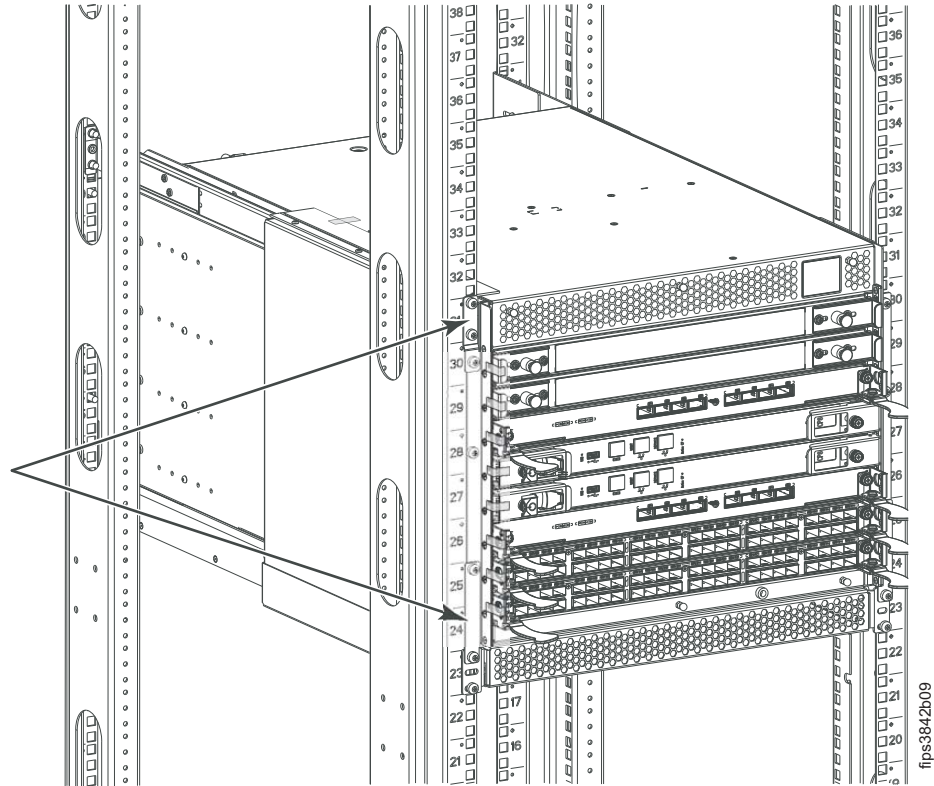
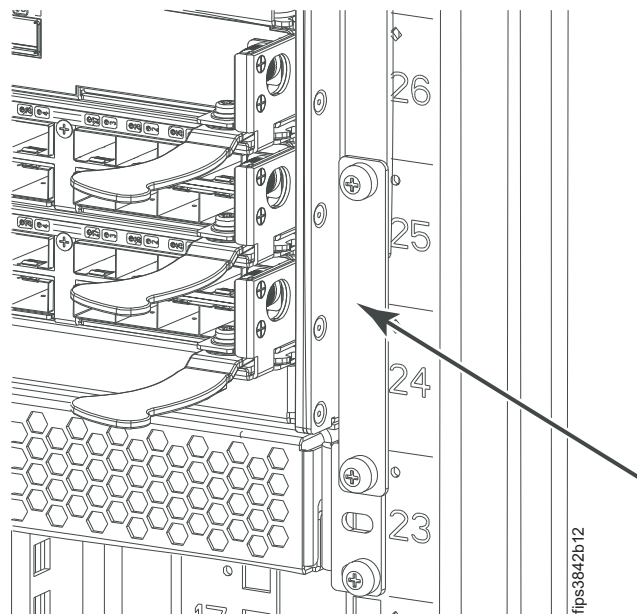

Figure 41. Upper and lower 2499-416 rackmount FIPS brackets installed on the left cabinet rail (left port view)
Figure 44. Lower right 2499-416 FIPS bracket installation (detailed port side view)
3. Use the three rackmount screws that you just removed to install the upper left FIPS bracket between the chassis rackmount flange and top rail flange, as shown by the upper arrow in Figure 41 on page 42, then tighten securely. The bracket with the slight bend is the upper FIPS bracket.
5. Using the two rackmount screws that you removed in step 4, install the lower left FIPS bracket between the chassis rackmount flange and exhaust kit shelf flange, as identified by the lower arrow in Figure 41, then tighten securely. The straight bracket is the lower FIPS bracket. (You can also refer to Figure 44 on page 44 for a more detailed mirror image of the similar lower right FIPS bracket.)
9. Use the two rackmount screws that you just removed to install the lower right FIPS bracket between the chassis rackmount flange and exhaust kit shelf flange, as shown in Figure 44, then tighten securely. The straight bracket is the lower FIPS bracket.